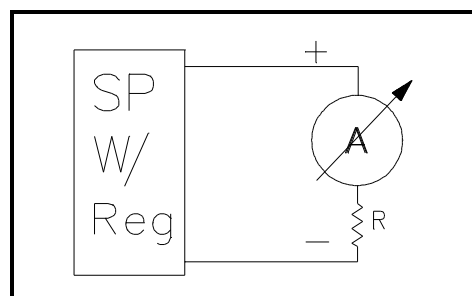

Figure 3 With Load Test - A
- Measure Current - Current measurement is shown in Figure 3; the test fixture uses a 1 Ohm sense resistor and Volt meter to make this measurement.